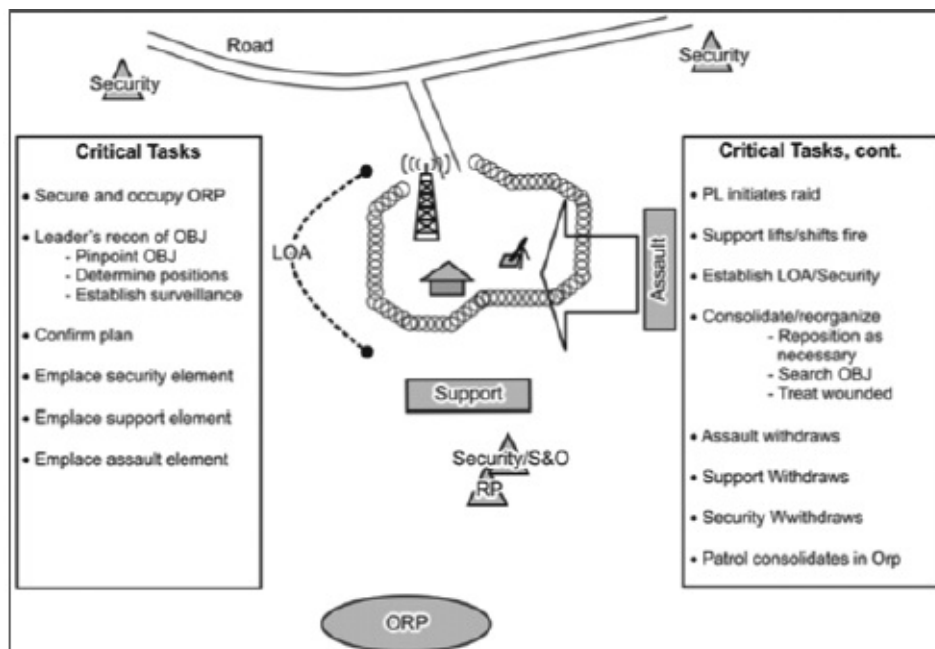

Figure 3-6. Actions on the objective – raid
(2) **Actions on the Objective (Raid).** See Figure 3-6.